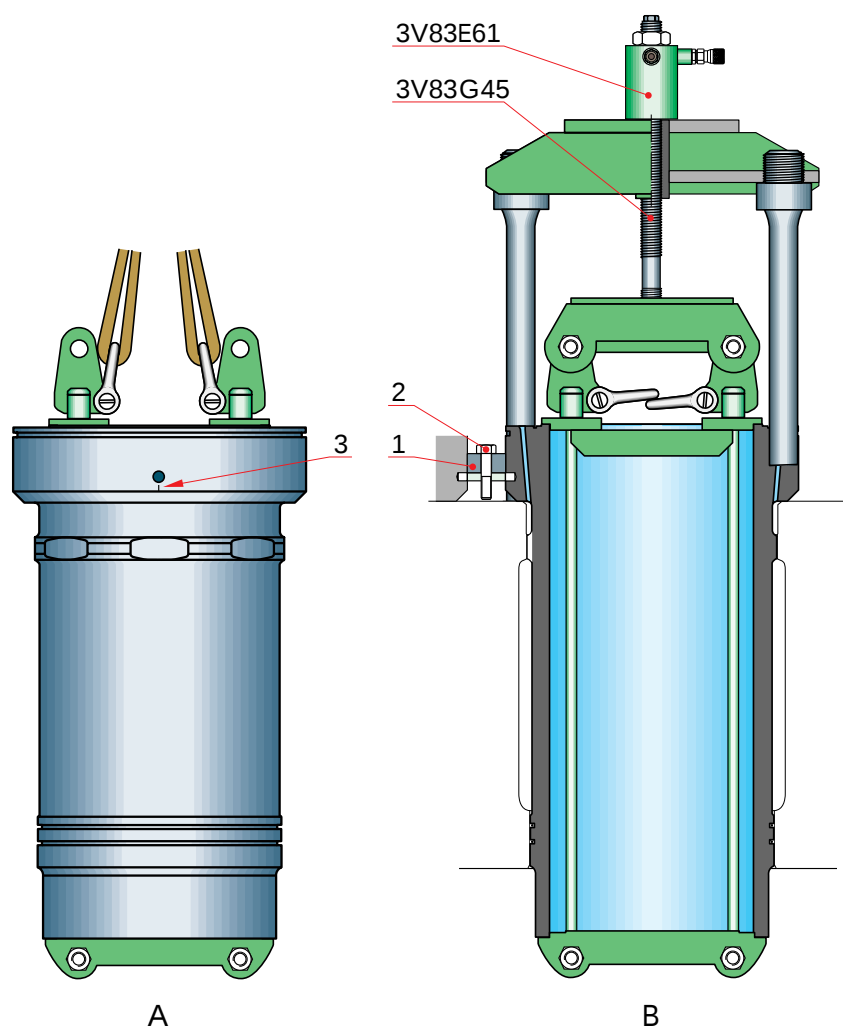

Fig 10-6
- 2 Loosen the screw (2)** and remove the holder (1).
- 3 Assemble the removing device** 32.83G02 and the hydraulic tool 3V83E61 according to Fig 10-6.
8 Use the part of the removing device intended for this purpose to lift the cylinder liner, see Fig 10-6.
4 Lubricate the lower O-rings and the sealing faces with grease and assemble the lifting device, see Fig 10-6.
5 Lower the liner carefully into the bore of the engine block. When the lowest O-ring touches the engine block, align the liner so that the mark (3, in Fig 10-6) on the liner is directed towards the driving end of the engine, on the V-engine B-bank towards the free end of the engine. Lower further and press liner into position by hand.